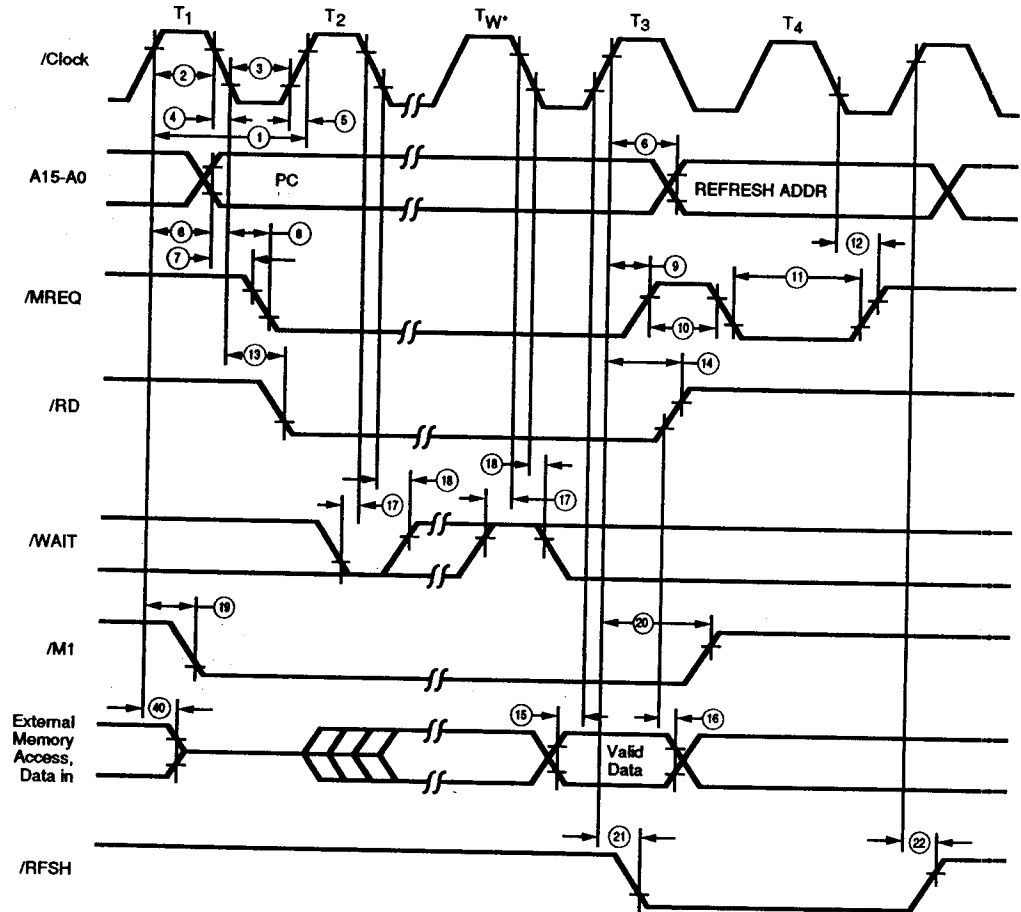

Figure 41. Instruction Op-code Fetch
Parameters referenced in Figure 41 through Figure 48 appear in Table A.
Instruction Op-code Fetch. The CPU places the contents of the Program Counter (PC) on the address bus at the start of the cycle (Figure 41). Approximately one-half clock cycle later, $\overline{\text{MREQ}}$ goes active. When active, $\overline{\text{RD}}$ indicates that the memory data can be enabled onto the CPU data bus.